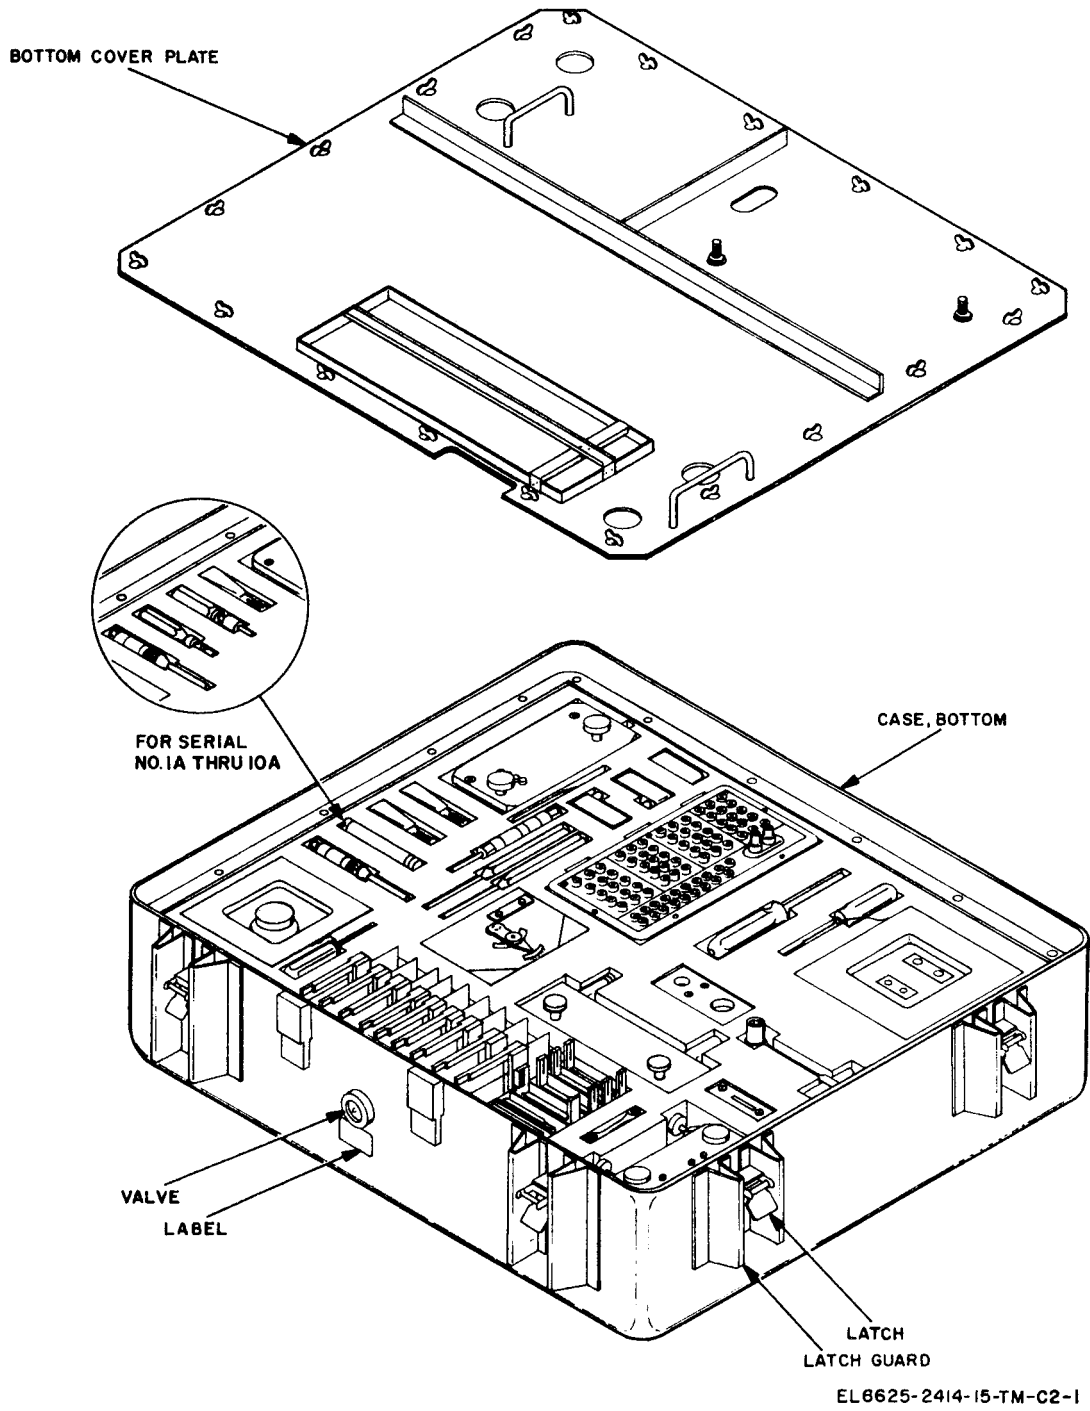

Figure 1-1. Test Facilities Kit MK-1191/AR, bottom.
a. This manual describes Test Facilities Kit MK-1191/AR (fig. 1-1, 1-2) and provides instructions for installation, operation and maintenance. Included are instructions for use under usual conditions, cleaning and inspection of the equipment, and replacement of parts available to the operator and organizational repairmen.
- (1) Appendix A, References.
- (2) Appendix B, Basic issue items list.
- (3) Appendix C, Maintenance allocation chart.